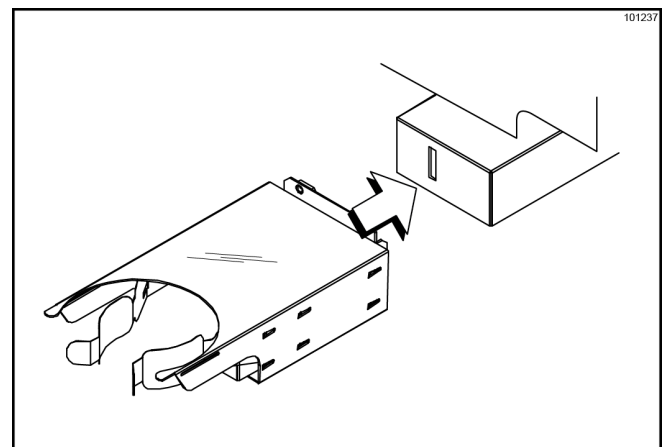

Figure-168
- Install the shake cup holder. (See Figure-168.)